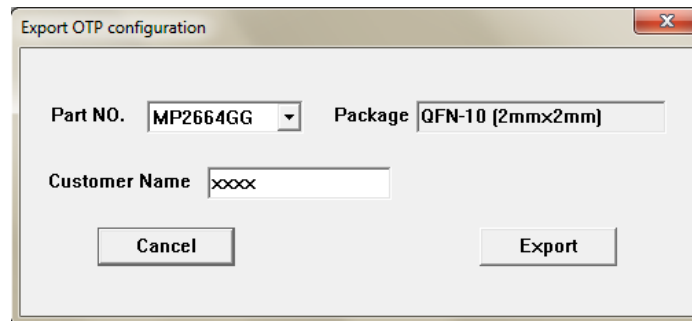

Figure 10: Select “Export”
- Select values from the drop-down menus. Please make sure all the parameters are populated before selecting the EXPORT in the tool bar. Export the configuration by clicking EXPORT. (See Figure 10).